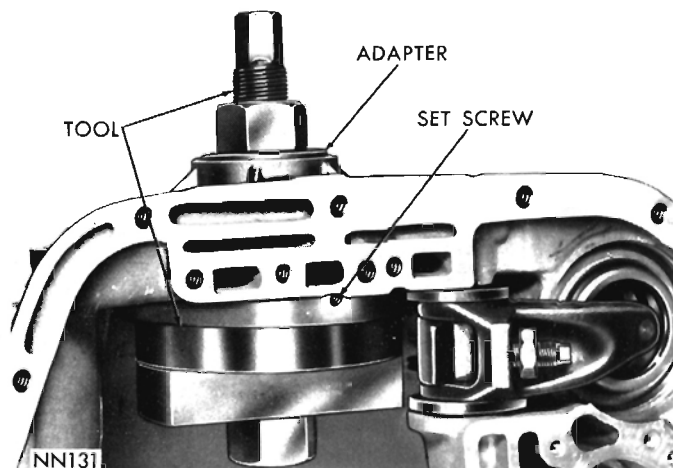

Fig. 92—Installing Overrunning Clutch Cam (A-727)
(4) Place spring retainer on the cam, making sure retainer lugs snap firmly into notches on the cam.
(5) Position cam in the case with cam serrations aligned with those in the case. Tap cam evenly into the case as far as possible with a soft mallet.
(6) Install Tool C-3863 and Adapter SP-5124 as shown in Figure 92, tighten nut on tool to seat cam into the case. Make sure cam is firmly bottomed, then install cam retaining set screw. Stake the case around set screw to prevent it coming loose.